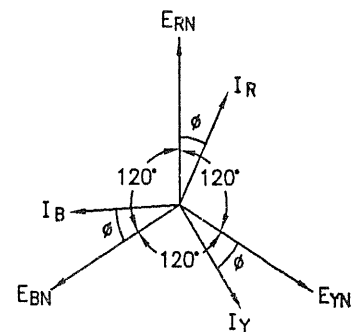

FIG. 2.81 : PHASOR DIAGRAM OF STAR CONNECTED SYSTEM
- The phasor diagram of the phase emfs and currents in a star connected system is shown in Fig. 2.81.